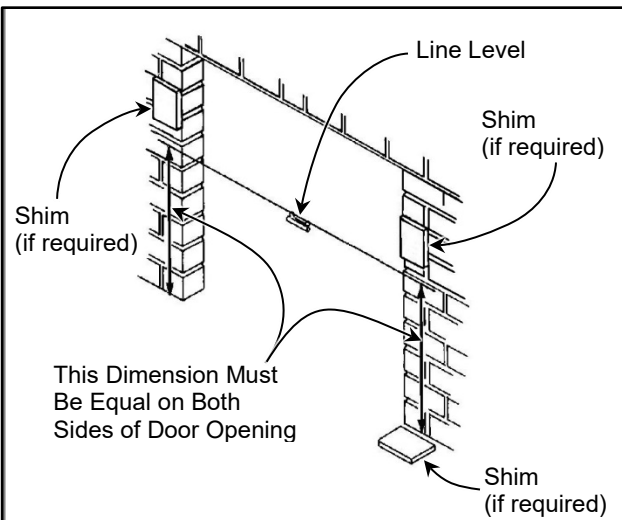
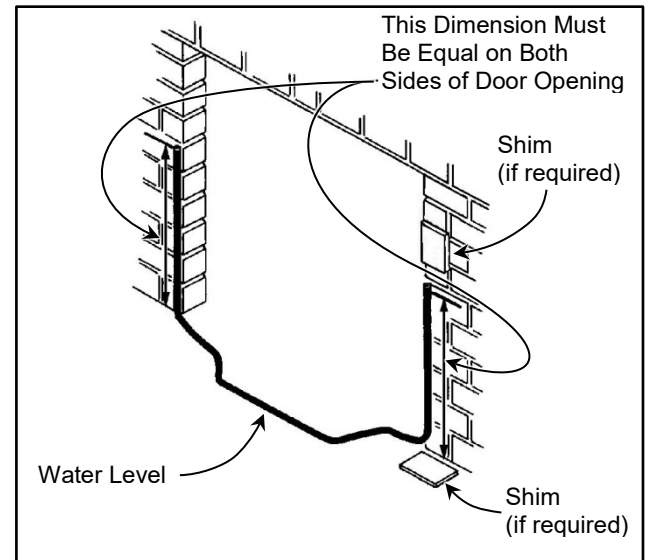

Figure 10
Figure 11
2. Assorted shim stock. (See Figure 10)
Figure 10 and Figure 11 show two methods that can be used to ensure level side columns.
If the wall is not plumb, shims must be used as required @ each side column fastener. If you find an obstruction, remove it or shim the column to avoid the obstruction. (See Figure 10 and Figure 11)